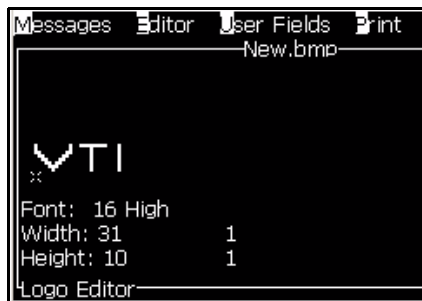

Figure 5-62: Logo on Menu Screen
- 10 Press the *Enter* Key and the logo appears on the menu screen (see Figure 5-62 on page 5-60).